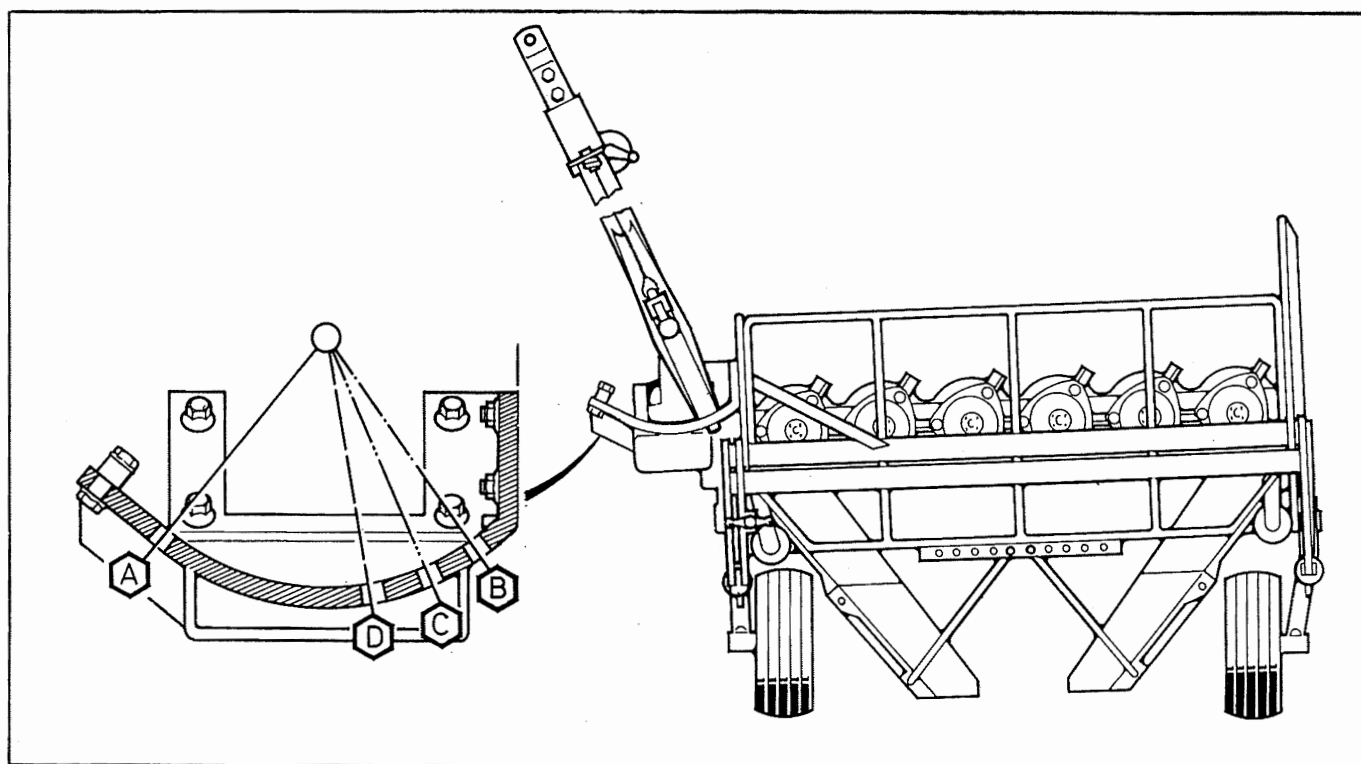
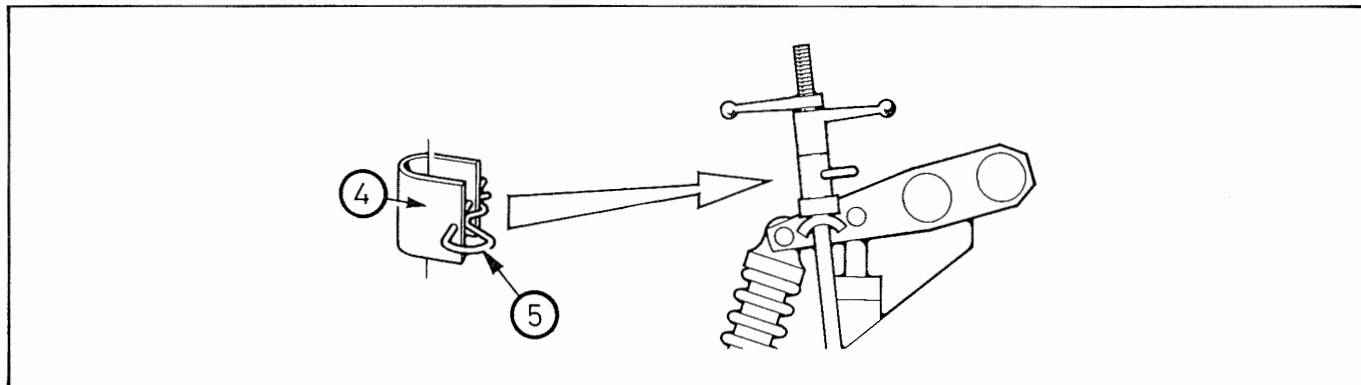

Fig. 4
Fig. 6
The Disc Conditioner Drawbar can be adjusted four positions (Fig. 4). The far left position (A) is for transport. The Drawbar Locking Catch can be operated by a pull cord attached to the tractor. Lower the Conditioner and pull the Cord to release the Catch and drive the Conditioner ahead or back to reposition the Drawbar.
Before transporting the Disc Conditioner, move the Drawbar to position "A" (Fig. 4), then the unit should be raised with the hydraulic Lift Cylinder. When in the transport position, the unit **MUST** be locked up with a Lock Clamp (4 of Fig. 6), fitted around the Spindle of the Cutterbar Pressure Adjustment and secured with the
Springclip (5 of Fig. 6). The Lock Clamp provides a positive mechanical lock to hold the Conditioner in the transport position. **BE SURE** to remove the Lock Clamp before attempting to lower the Conditioner to the operating position.
When the Disc Conditioner is attached in a given position on the tractor, it is possible to carry-out a simple test by lifting the unit (by hand) on the right side near the Windrow Shield. The weight should be approximately 110 lb (50 kg) (2 of Fig. 4) adjusted by the Wing Nut on the Ground Pressure Adjustment (3 of Fig. 4). Refer to the following topic for additional information.